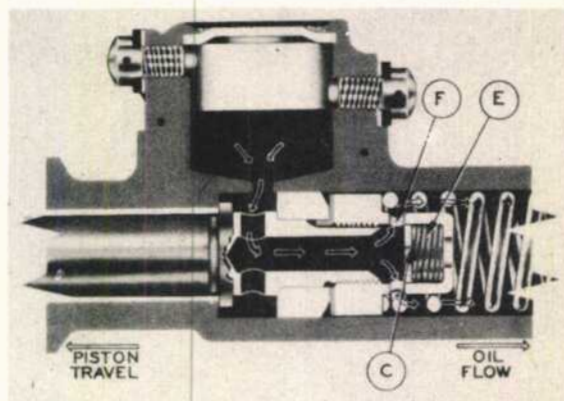

Figure 7—Hydraulic Shock Unit Counterrecoil Stroke
(3) COUNTERRECOIL STROKE.—On return stroke (figure 7) pressure of fluid overcomes resistance of disc retaining spring (E) and forces the metered disc (C) from its seat, facilitating the return flow of oil through orifices (F).